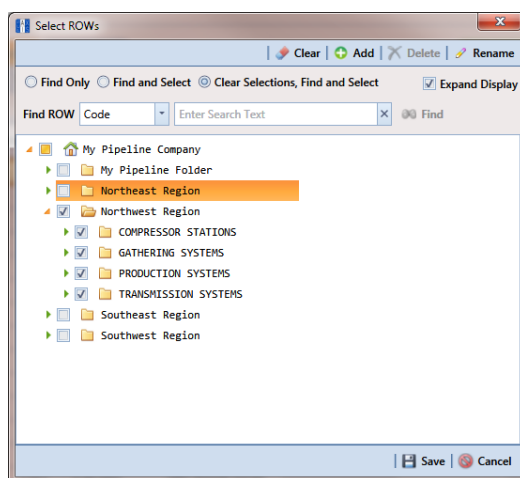

Figure 4-1. Select ROWs
The hierarchy is an organizational structure of one or more folders. Folders are organized in a tree structure based on the number of hierarchy levels set up in the system. The top level of the hierarchy is the root level that identifies your company's name. All hierarchy folders are added below the root level. The lowest level of the hierarchy includes a folder with pipelines added in the system (Figure 4-1, page 104).
- 1 Click **File > Select ROWs** to open the *Select ROWs* window (Figure 4-1).